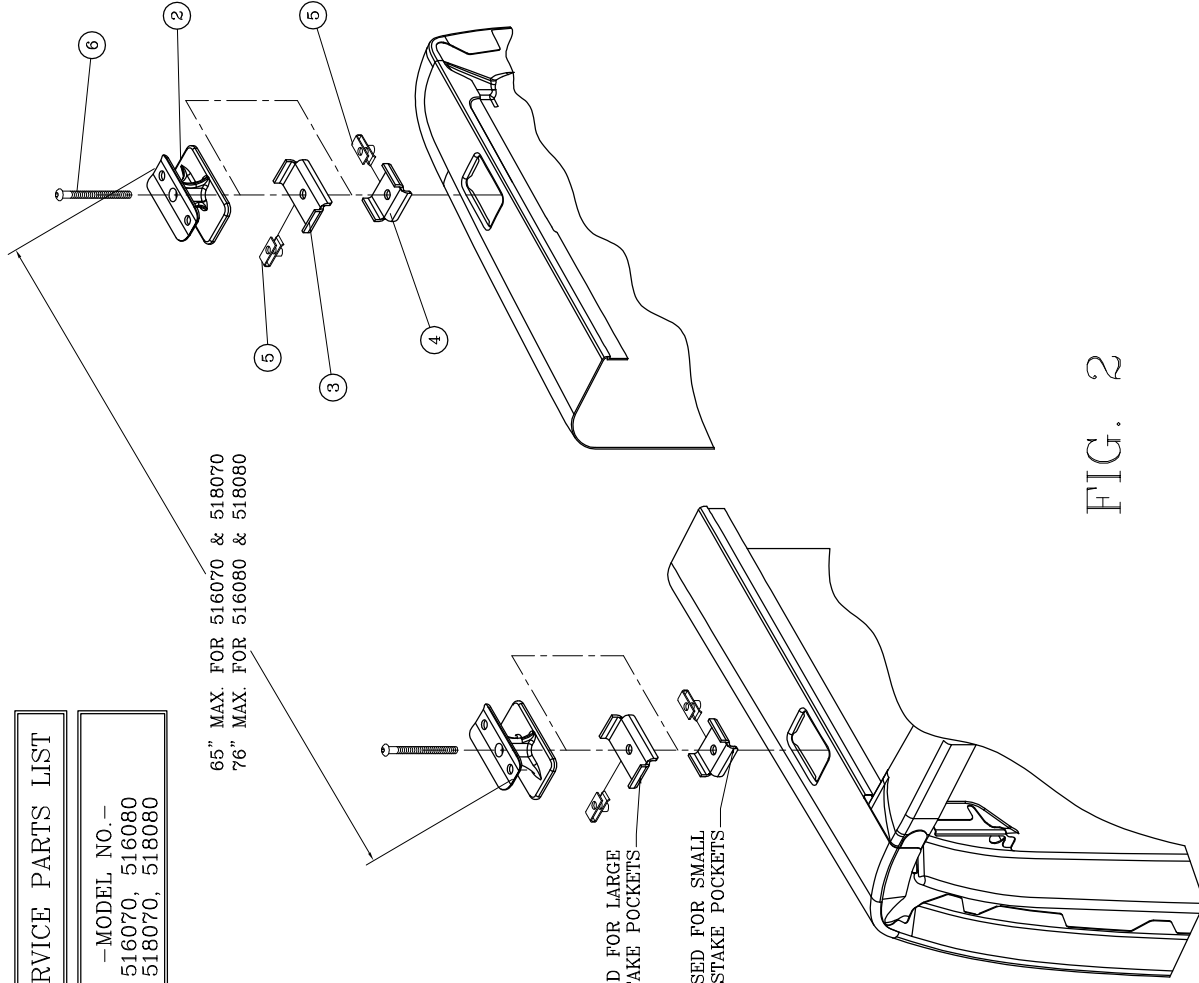

FIG. 2
- 2.2 The stake pockets on the trucks are various sizes, so we have supplied (2) different size mounting plates. Please take some time to determine which mounting plate will work for your application (item #3 or item #4). **YOU WILL NOT USE BOTH PLATES IN EACH STAKE POCKET.** However you may use a large plate in one pocket, and a small plate in the opposite pocket. See **fig 2.**
- 2.3 Once you have determined which mounting plates to use, please assemble the 5/16-18 multi thread u-nut (item #5) to the mounting plates (item #3 or item #4) as shown in **fig 2.**
- 2.6 Repeat for the rear stake pocket. Use a bed rail to make sure the two bases line up. The **Maximum** overall dimension at the top of the black bases is 76" or 65". See **fig 2.**